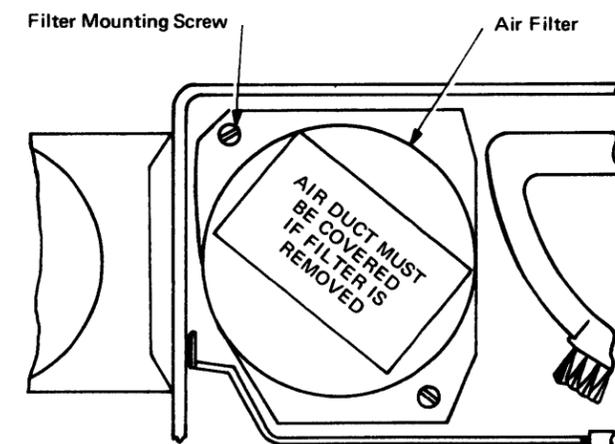

Figure 2-20. Air Filter Mounting [07545]
2. Unscrew filter mounting screws (Figure 2-20).
2. Install new filter and fit mounting screws (see Figure 2-20).